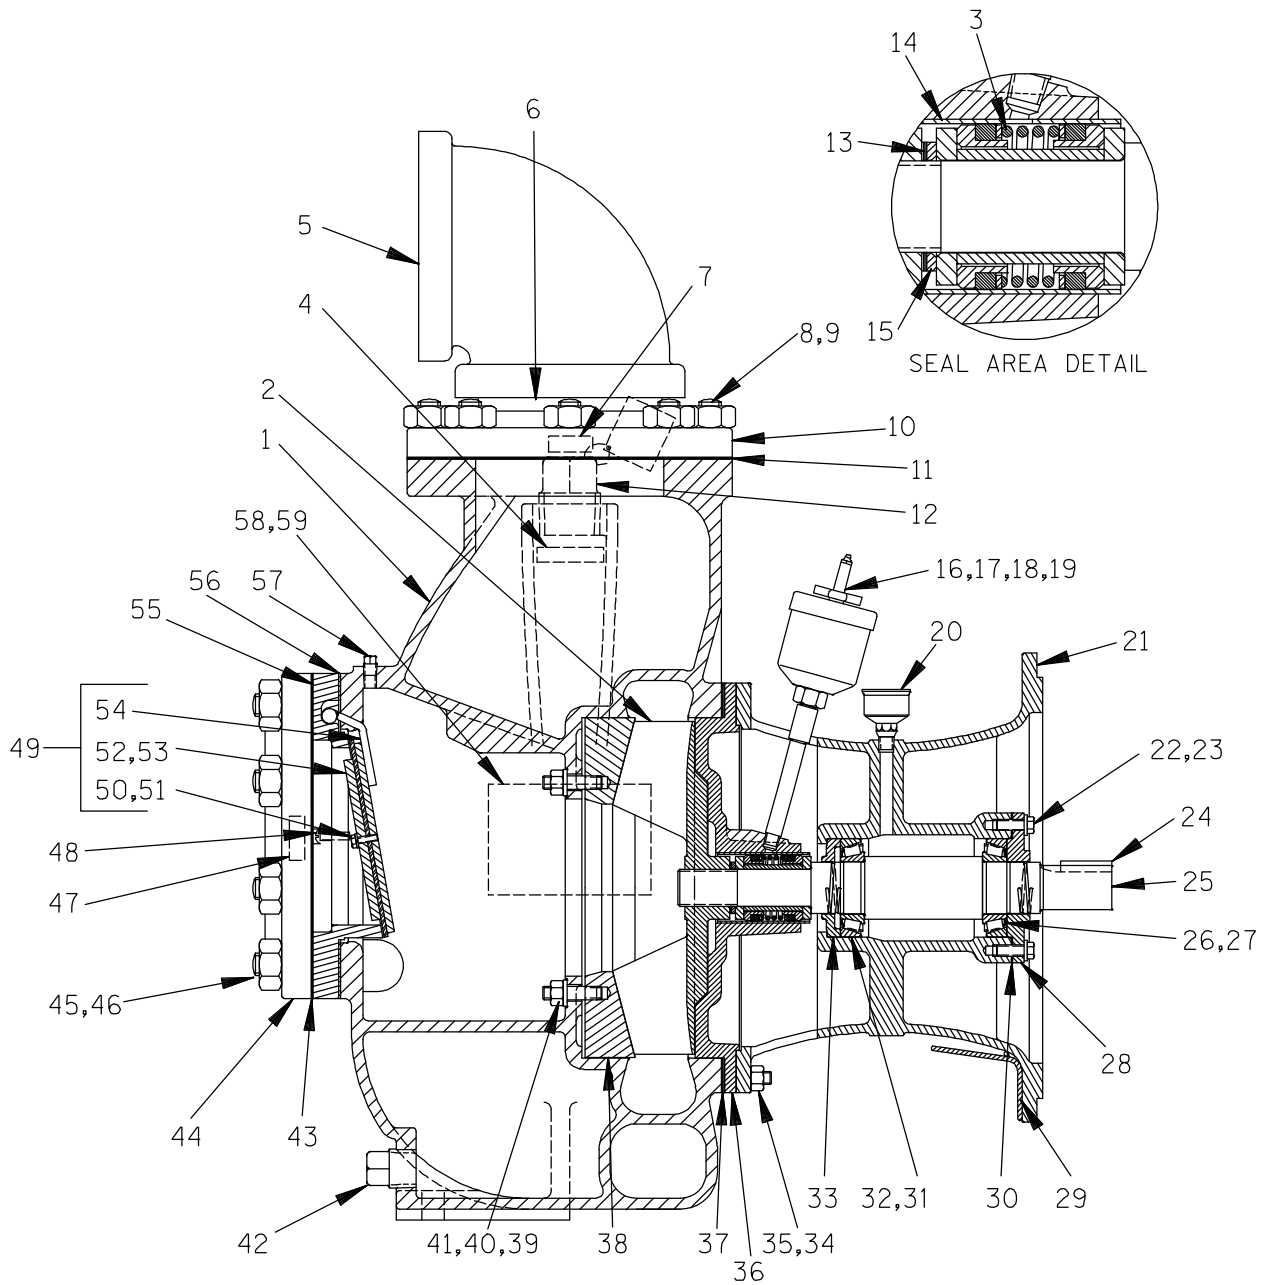

Figure 2. Pump End Assembly 86A2-(SAE 4/10)
(Figure 2)
As the assemblies separate, the flexible portion of the coupling assembly (3) will remain on the shaft. To remove the coupling from the shaft, unscrew the two allen head setscrews from the bushing (2). Screw one of the setscrews into the puller hole on the circumference of the bushing. As the coupling and bushing separate, remove the bushing, and slide the coupling off the shaft. Remove the shaft key (24, Figure 2).